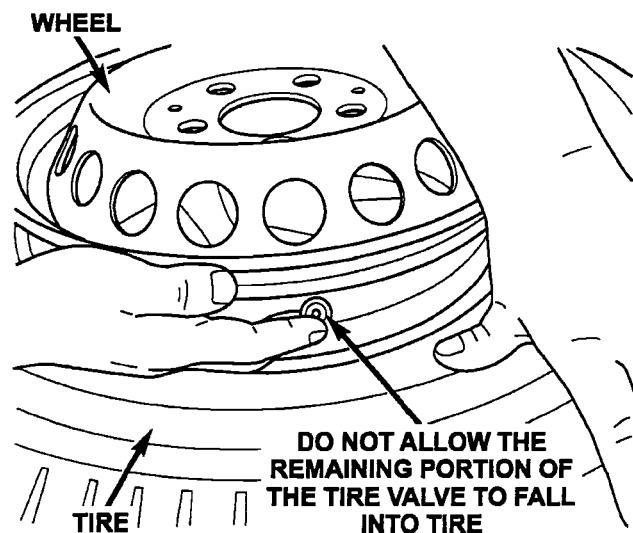

Figure 2 – Steel Wheel Shown
10. Reach between tire and wheel and removing remaining portion of the tire valve stem (Figure 2).